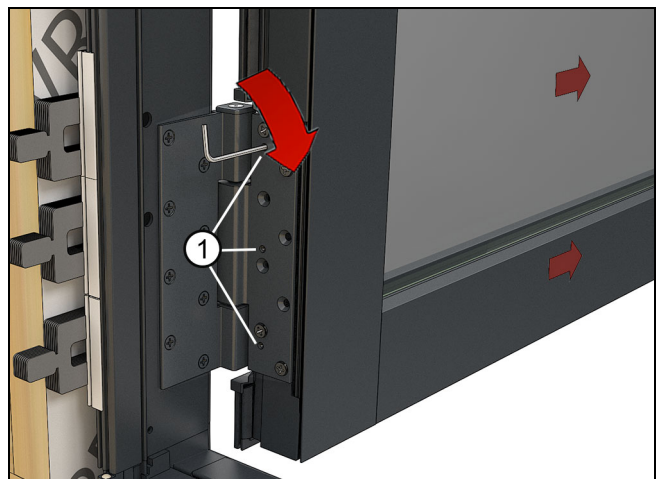

Figure 68
4. To make the necessary horizontal adjustments, use the 3mm hex wrench to turn the 3 set screws. Turn the screws clockwise to move the hinge away from the jamb. Adjust all three set screws to approximately the same depth. See Figure 68.